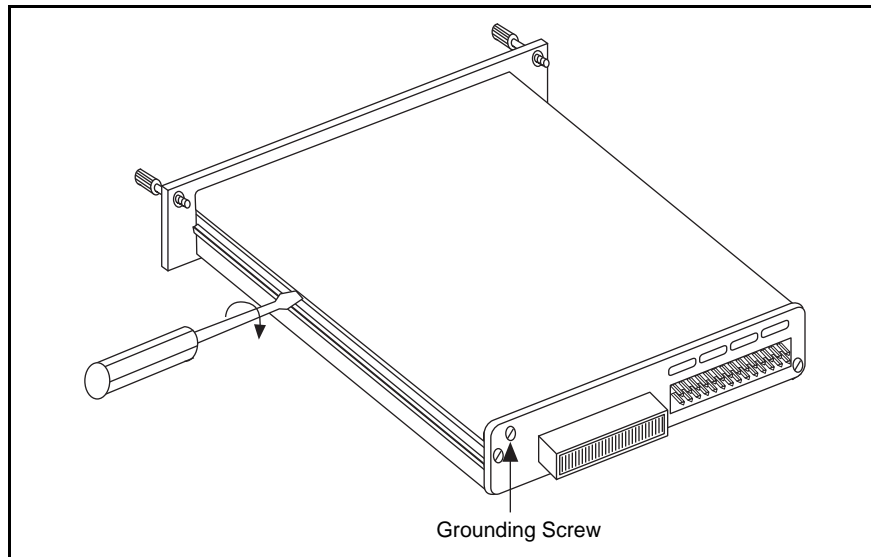

Figure 1. Removing the SCXI Module Cover
Perform the following steps to mount the SH48-48-B cable assembly and connect the TBX-1326 to your SCXI module. Refer to Figures 1 and 2 as needed.
4. Unscrew the SCXI module cover grounding screw with a No. 1 Phillips-head screwdriver and remove the module cover (see Figure 1).